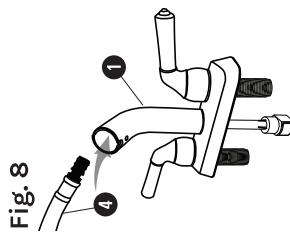

Fig. 8
5. Insert the **Spray Hose** 4 in the spout until the hand sprayer rests in the spout (see Fig. 8).
7. Attach the **Weight** 6 to the hose, then align it with the **Marked Label** and snap it together (see Fig. 8).